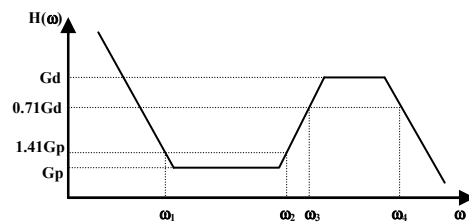

Figure 9 Transfer Function of the Compensation Network
The transfer function of the compensation network, defined as  $H(\omega) = VDR(\omega)/TMO(\omega)$ , is shown in figure 9.
- d.  $C_D \cdot R_I$  determines the corner frequency,  $\omega_2 = 1 / (C_D \cdot R_I)$ , where the differential component starts picking up (see Figure 9), as the frequency goes up.